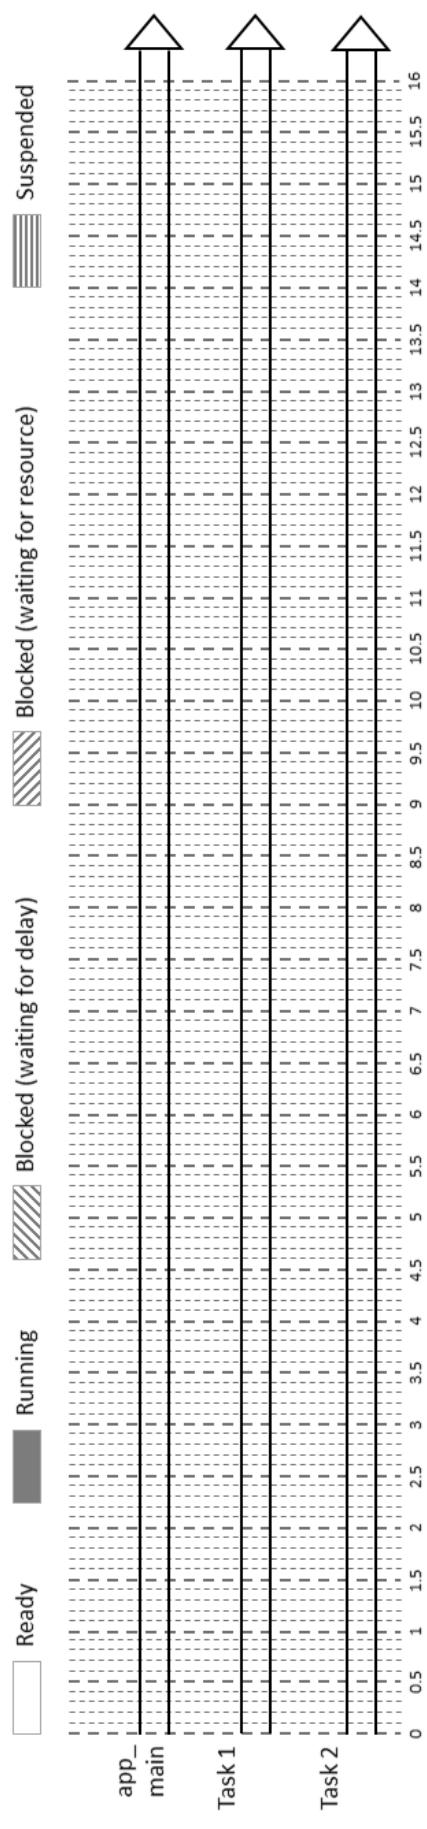

FIGURE 1.2 – *Scheduling of 3 tasks.*
15. For this scenario, trace in the figure 1.2 the behavior of the *app_main()*, *Task 1* and *Task 2* tasks until 160 ticks.